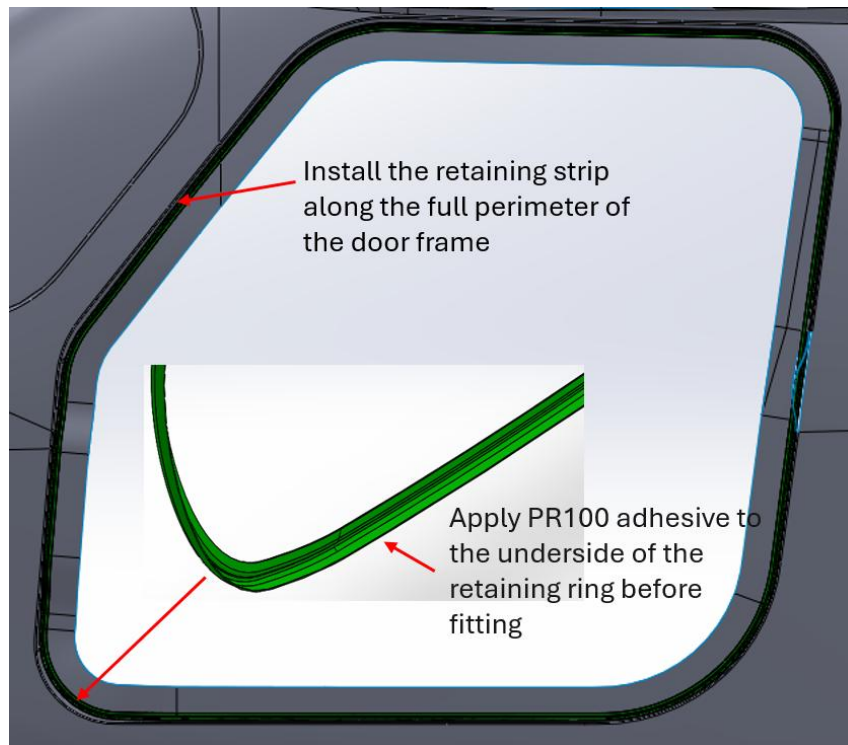

Figure 7: Cabin Door Retaining Ring Installation
1. Refer to Figure 7 for retaining ring placement and orientation.